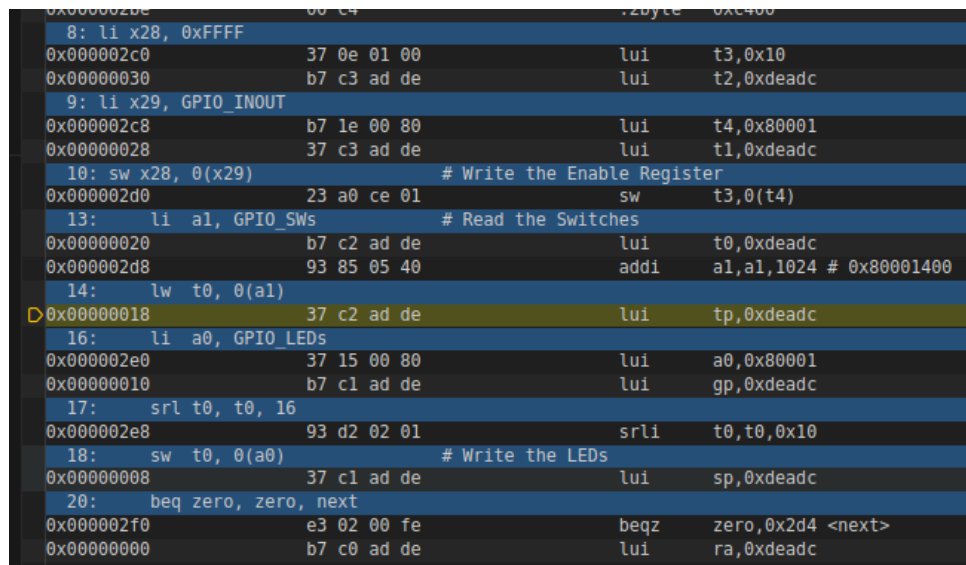

Figure 49: Catapult Studio Disassembly Window
- b. The disassembly window shows the lines of your code in blue, interspersed with the associated binary instructions and, on the left, the aNoDDresses where those instructions are stored (Figure 49). Note that you can also set breakpoints in the disassembly window and step through the individual instructions.